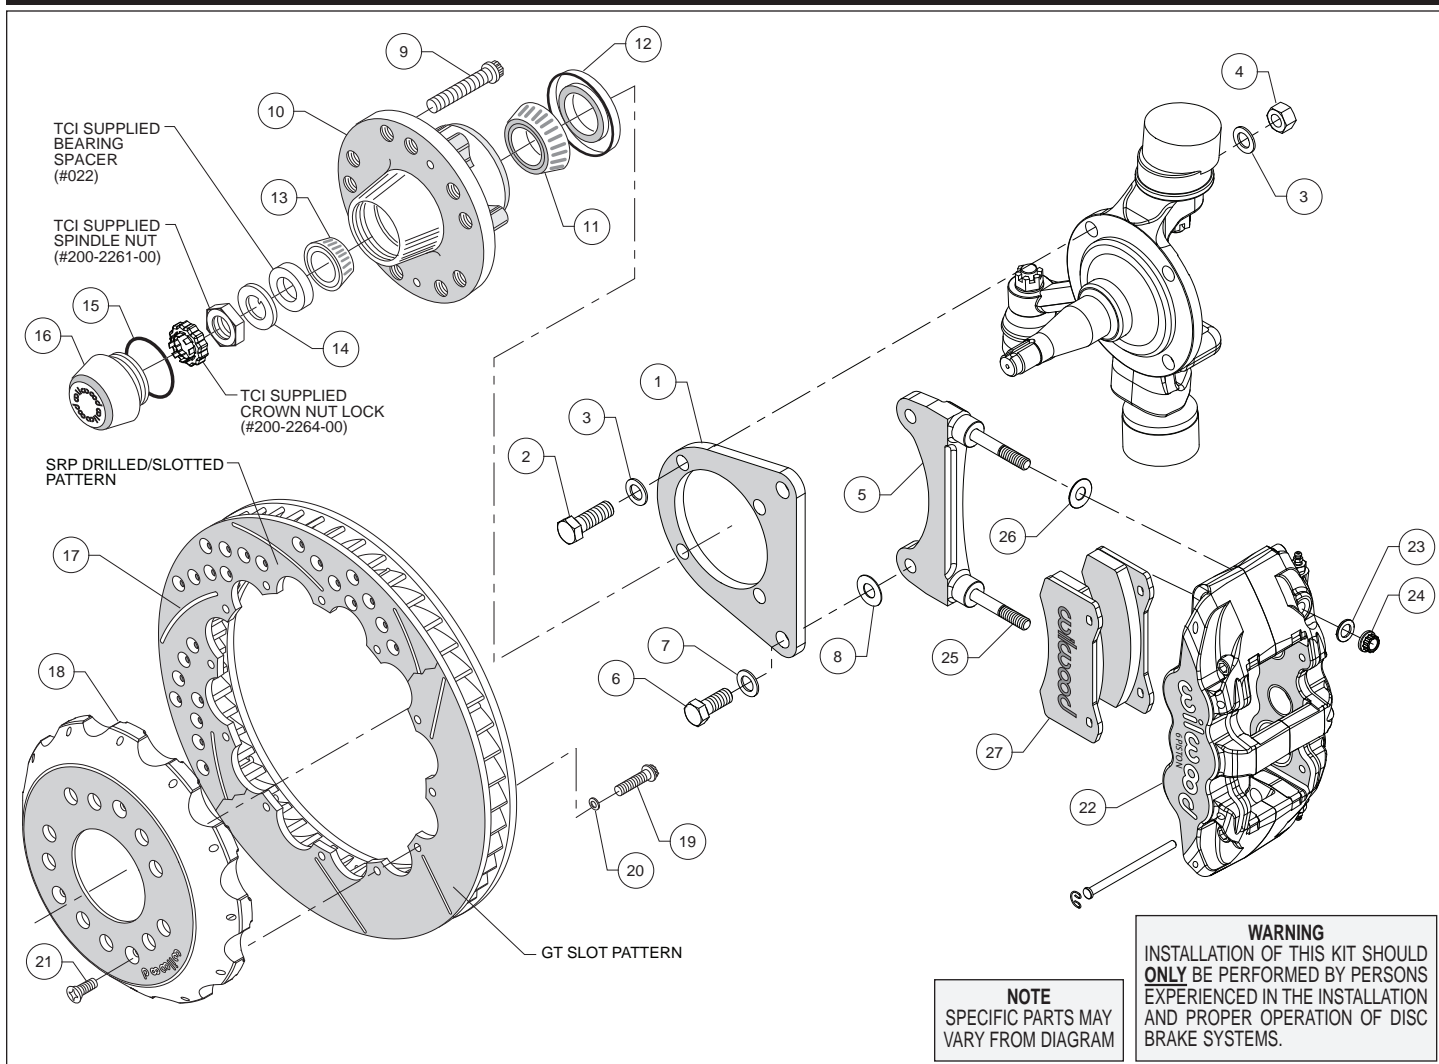
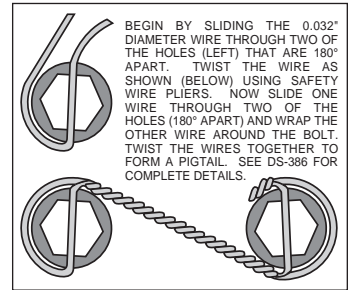

Figure 1. Typical Installation Configuration
Figure 3. Safety Wire Diagram
Assembly Instructions (numbers in parenthesis refer to the parts list, and Figure 1 on the preceding pages):
- Orient the flat bracket (1) as shown in Figure 1, and Photo 1, and install using bolts (2), washers (3), and nuts (4). **NOTE:** The two lower mount bolts thread directly into the steering arm. Temporarily tighten the mounting bolts. **NOTE:** The bracket must fit squarely against the spindle face. Inspect for interference from casting irregularities, machining ridges, burrs, etc. After the bracket alignment has been checked, remove the bracket mounting bolts (or nuts) one at a time and apply red *Loctite*® 271 to the threads. Torque bolts to 77 ft-lbs.
- The radial mount caliper bracket (5) should initially be installed with clean, dry threads on the mounting bolts. Orient the bracket as shown in Figure 1, and Photo 2, and install using bolts (6), and washers (7). Initially place one .033" thick shim (8) on each bolt between the flat bracket (1) and radial mount caliper bracket (5), Figure 1. Temporarily tighten the mounting bolts. Later, after the caliper alignment has been checked, the mount bolts will be secured using red *Loctite*® 271.
- Install wheel studs (9) into the hub (10), Photo 3. Torque to 77 ft-lb. **NOTE:** There are two five lug patterns in the hub (5 x 4.50 and 5 x 4.75). Ensure the correct hub stud pattern is being used to fit the wheel application.
- Pack the large inner bearing cone (11) with high temperature disc brake bearing grease (available from your local auto parts store) and install into the backside of the hub (10), Photo 4.
- Install the grease seal (12) by pressing into the backside of the hub (10), flush with the end of the hub, Photo 4.
- Pack the small outer bearing cone (13) with high temperature disc brake bearing grease and install into hub (10), Photo 5. Slide the hub assembly onto the spindle. Install TCI supplied bearing spacer (#022). Secure using spindle washer (14) and TCI supplied spindle nut (#200-2261-00). Bearing adjustment: Tighten the nut while turning the hub. When there is a slight bind on the bearings, they are seated correctly. Back the nut off about 1/6 to 1/4 of a turn, or sufficiently to allow .001" to .007" end play. **WARNING:** Failure to back off adjusting nut could cause bearing to run hot and be damaged, which could cause the wheel to lock
- Orient the rotor (17) and the hat (18) as shown in Figure 1 and Photo 7. Attach rotor to hat using bolts (19) and washers (20). Using an alternating sequence, apply red *Loctite*® 271 to the threads, and torque to 155 **in-lbs**. For an added measure of security, the bolts may be safety wired using standard 0.032 inch diameter stainless steel safety wire as shown in Figure 3. Please refer to Wilwood's data sheet DS-386 (available at www.wilwood.com/Pdf/DataSheets/ds386.pdf) for complete safety wire installation instructions.
- Slide the hat/rotor (17/18) onto the hub (10) taking care to align the small countersunk holes in the hat with the small threaded holes in the hub. **NOTE:** The hat must fit flush against the hub face or excessive rotor run out may result. Install three flat head screws (21) through the small holes in the hat (18), Photo 8, and torque to 85 **in-lb**.
- NOTE:** This kit contains distinct right and left hand calipers that must be mounted in a specific direction, as described below. Lubricate the caliper mounting studs (25) with lightweight oil. Initially place one .030" thick shim (26) on each stud between the caliper and the bracket, as shown in Figure 1 and Photo 9. Mount the caliper (22) onto the bracket (5) using lock nuts (24) and washers (23), Figure 1. Ensure that the caliper is mounted so the largest pistons are at the rotor exit end of the caliper, in relation to the direction of rotor rotation. Temporarily tighten the lock nuts and view the rotor through the top opening of the caliper. The rotor should be centered in the caliper, Photo 10. If not, adjust by adding or subtracting shims (8) between the flat bracket and the radial mount bracket. Always use the same amount of shims on each of the two mounting bolts. Once the caliper alignment is correct, remove the radial mount bracket bolts one at a time, apply red *Loctite*® 271 to the threads, and torque to 60 ft-lb.
- Remove the two pad retaining pins from the caliper by carefully popping out the pin retaining clips and sliding out the pins. Insert the brake pads (27) into the caliper from the bottom, Figure 1, with the friction material facing the rotor and secure the brake pads in place with the pad retaining pins and clips, Photo 11. Reinstall the caliper onto the caliper mounting bracket and temporarily tighten the lock nuts. Check that the top of the brake pad is flush with the outside diameter of the rotor, Photo 12. If not, adjust by adding or subtracting shims (26) between the caliper and the bracket. After the caliper pad height is set, torque the caliper lock nuts (24) to 47 ft-lb.